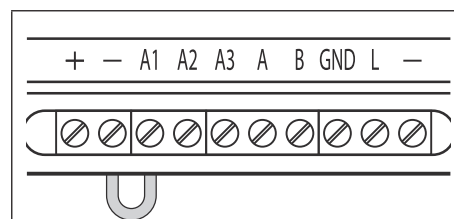

Fig. 33
2. Short out the auxiliary terminal **A1** to the - terminal with a piece of link wire, see **Fig.33**;